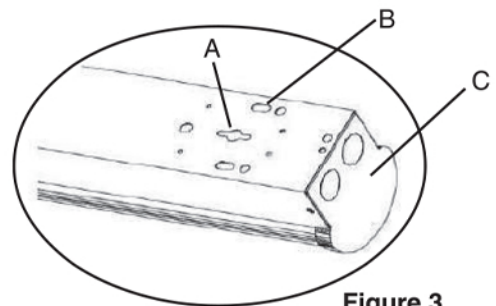

Figure 3
Step3: Fix the luminaire onto the ceiling by the self-tapping screws, slide into key hole slots on the top side of the luminaire base. (figure 3 A)
Step1: Mount V-hooks to the luminaire (Figure 3 B)
- 1.DIP switches are located onto the side of the fixture.(see Fig.3)
- 2.Select a wattage and color temperature by sliding switch left or right respectively to the desired value.(see Fig.3 A)